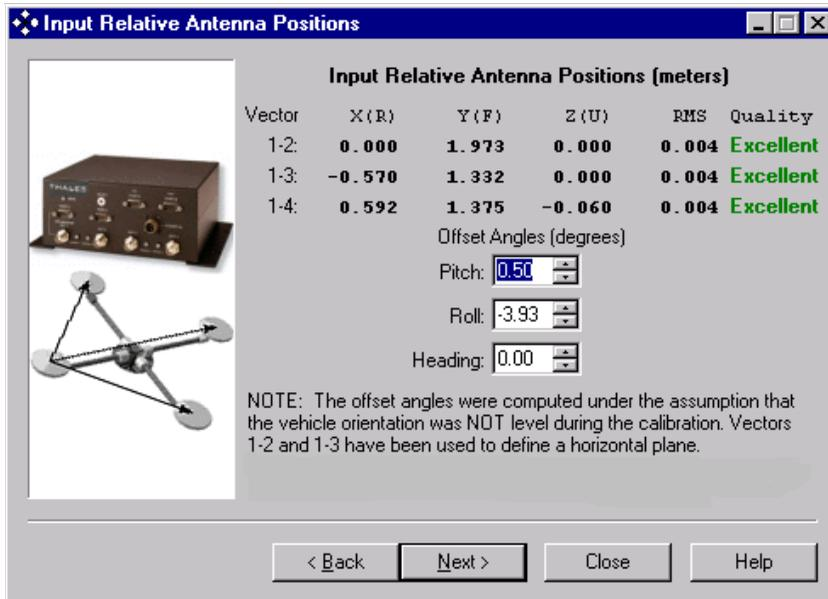

Figure 4.9 Input Relative Antenna Positions
| Input Relative Antenna Position Figure 4.9 | | 43 |
2. Click **Next** to write the final output in the ADU5BASE.GPS file. This will open the **Dynamic Calibration is Completed** dialog. This dialog will be shown in Figure 4.10, after a discussion on the **Input Relative Antenna Positions** dialog, Figure 4.9.